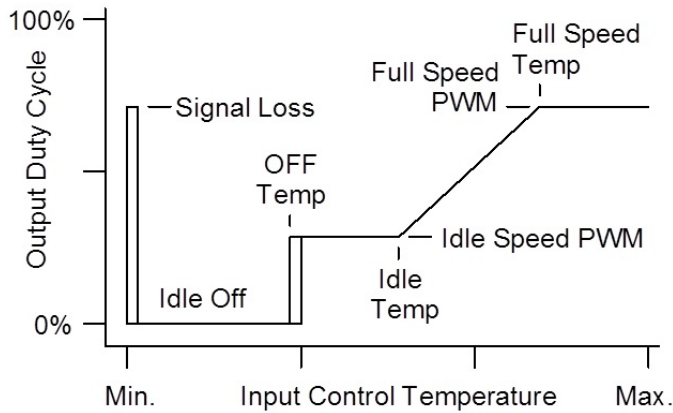

Figure 3: Fan speed signal vs. sensor temperature.
5) The Speed on signal loss menu is used to set a fail-safe fan speed in case the control signal is lost. At this point, it is highly recommended that you start drawing your desired control curve to help identify the programmable variables to follow (refer to figure 3 to model you control curve).